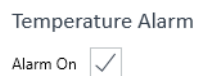

Figure 39 Temperature Alarm
- 1 Check the **Alarm On** box in the Tray Temperature window. (See Figure 39.)